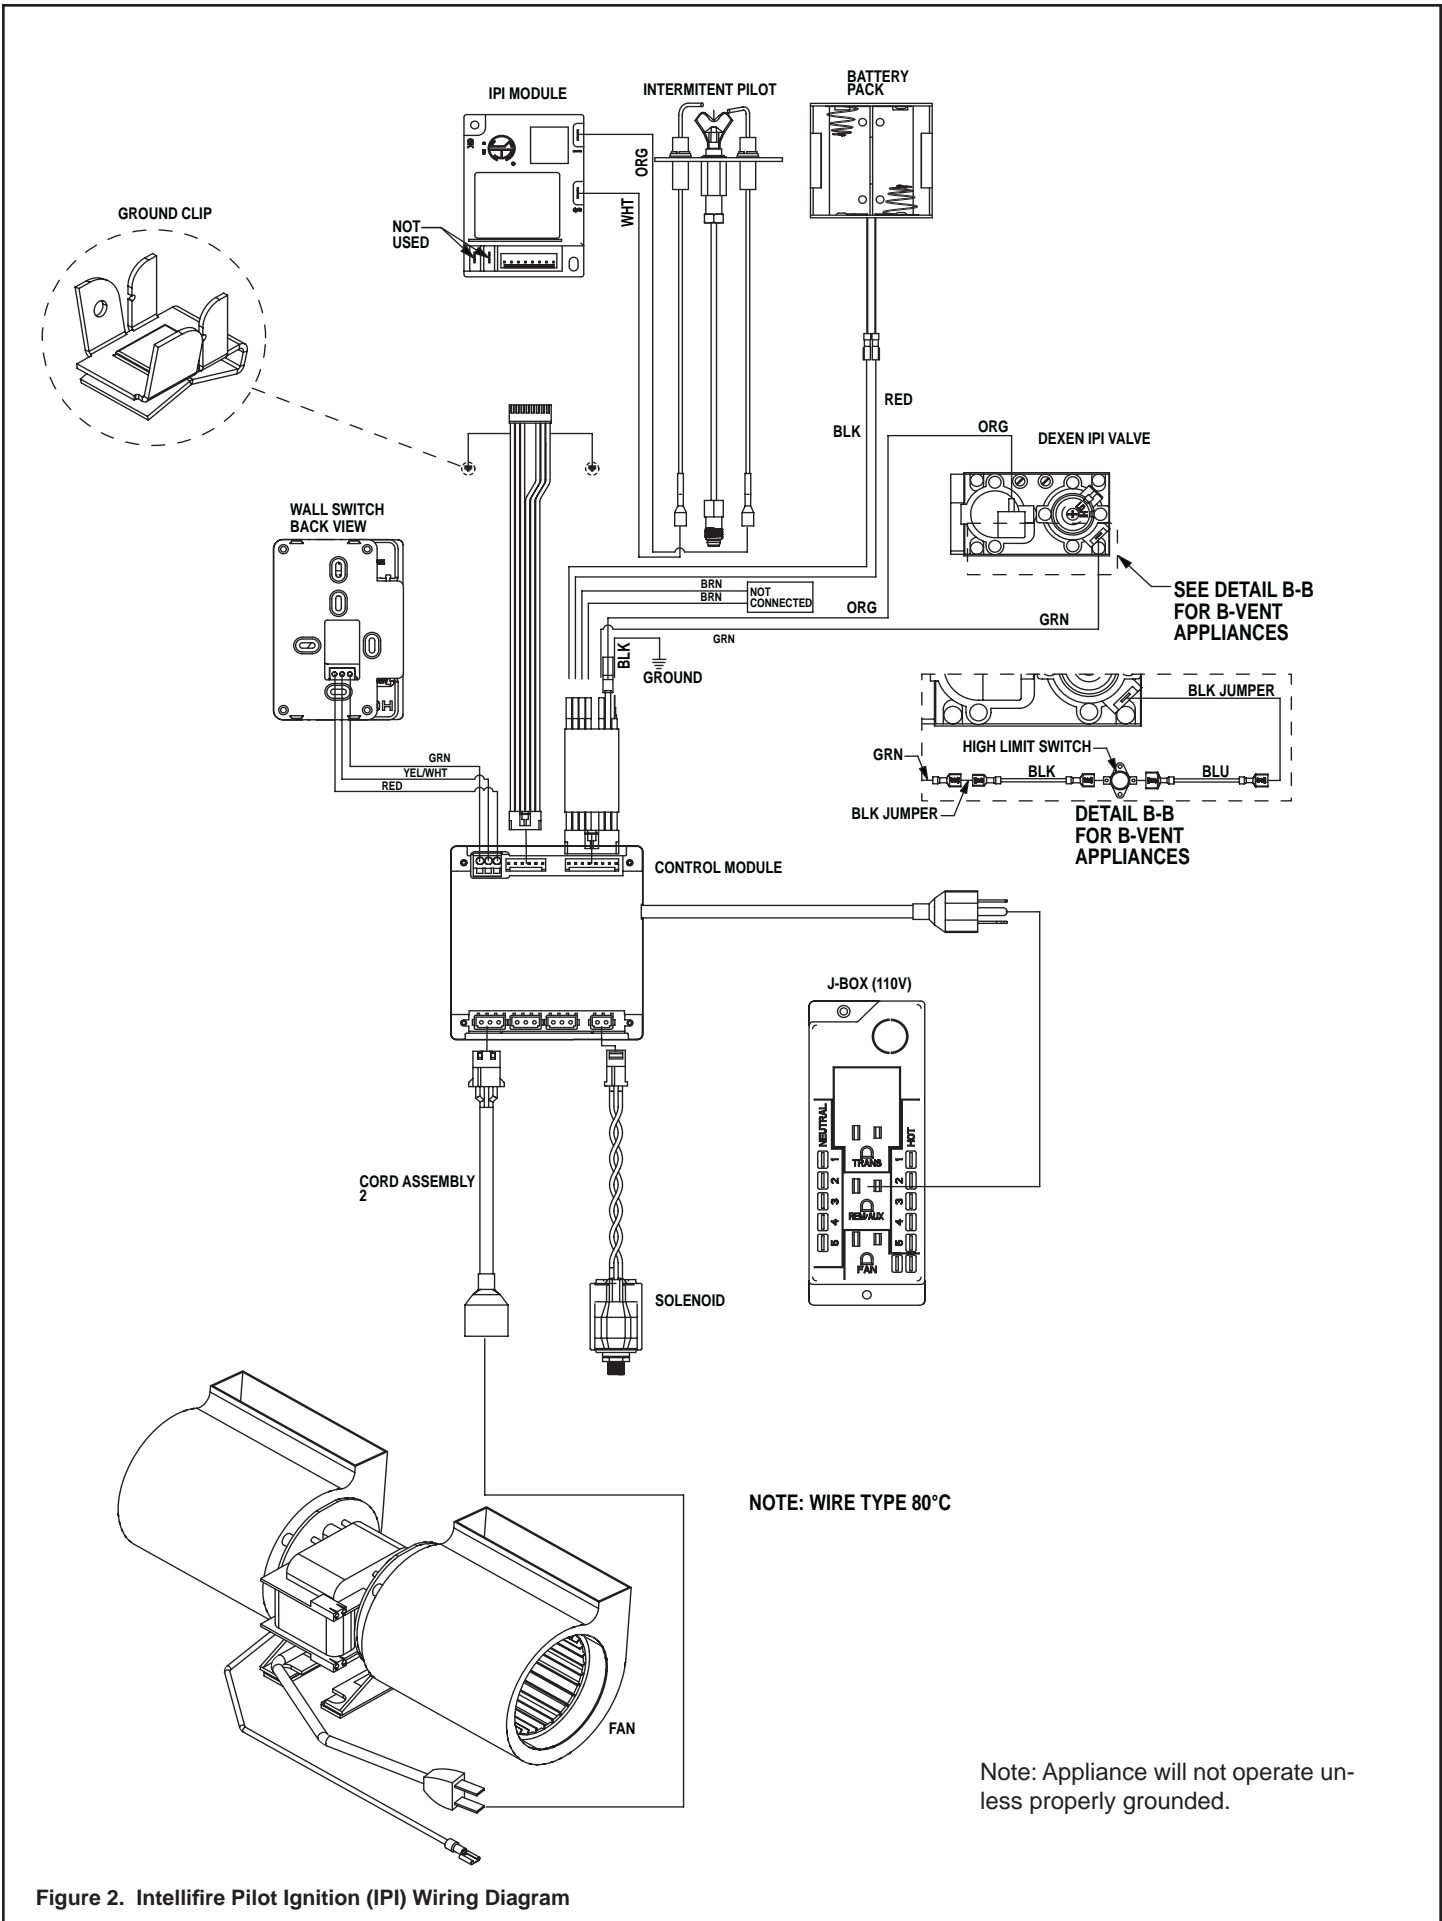

Figure 2. Intellifire Pilot Ignition (IPI) Wiring Diagram
6. Attach the provided ground clip (see Figure 2) to the nearest available sheetmetal edge. Attach the black leads with the 1/4 inch female connector to the ground clip.
7. All wiring should be complete. See Figure 2 to confirm that all connections are correct.